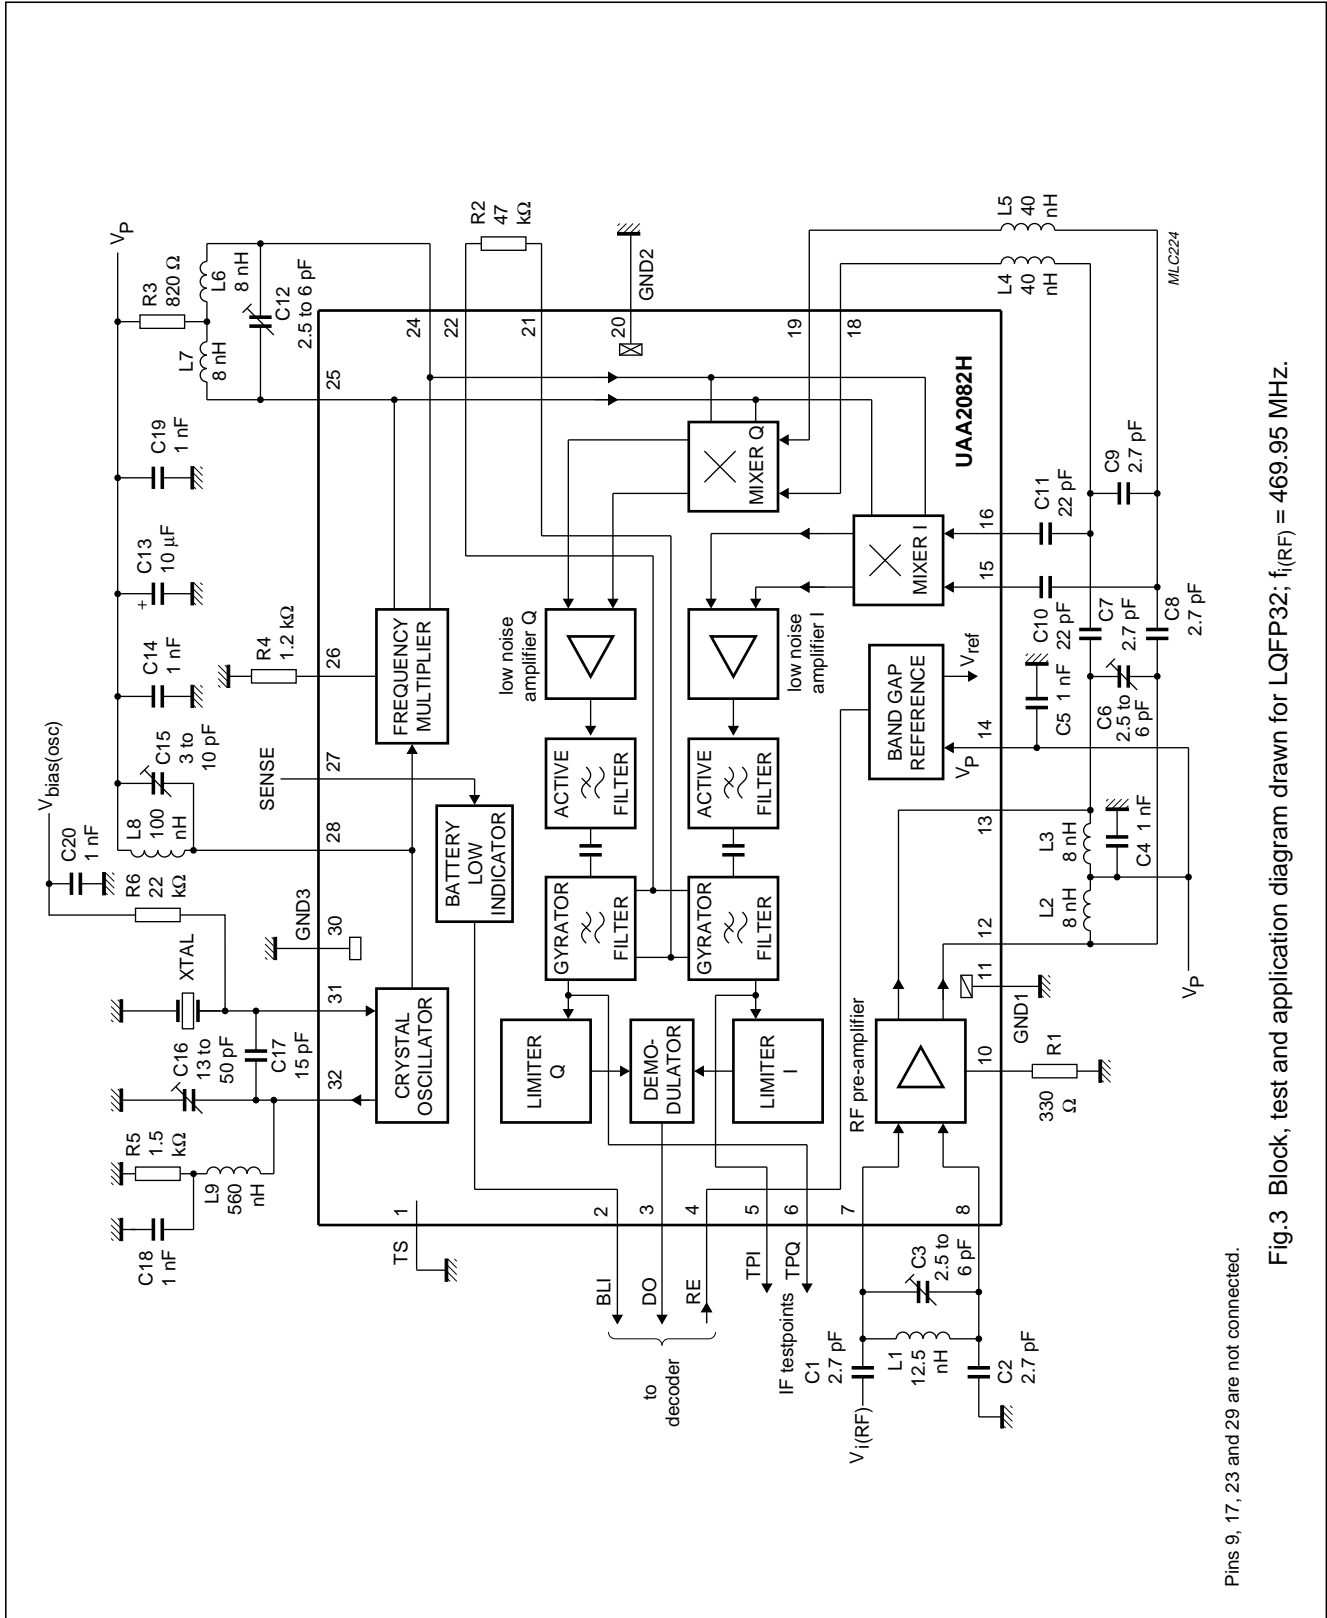

Fig.3 Block, test and application diagram drawn for LQFP32;  $f_{i(RF)} = 469.95$  MHz.
**Table 2** Tolerances of components shown in Figs 3, 4 and 5 (notes 1 and 2)